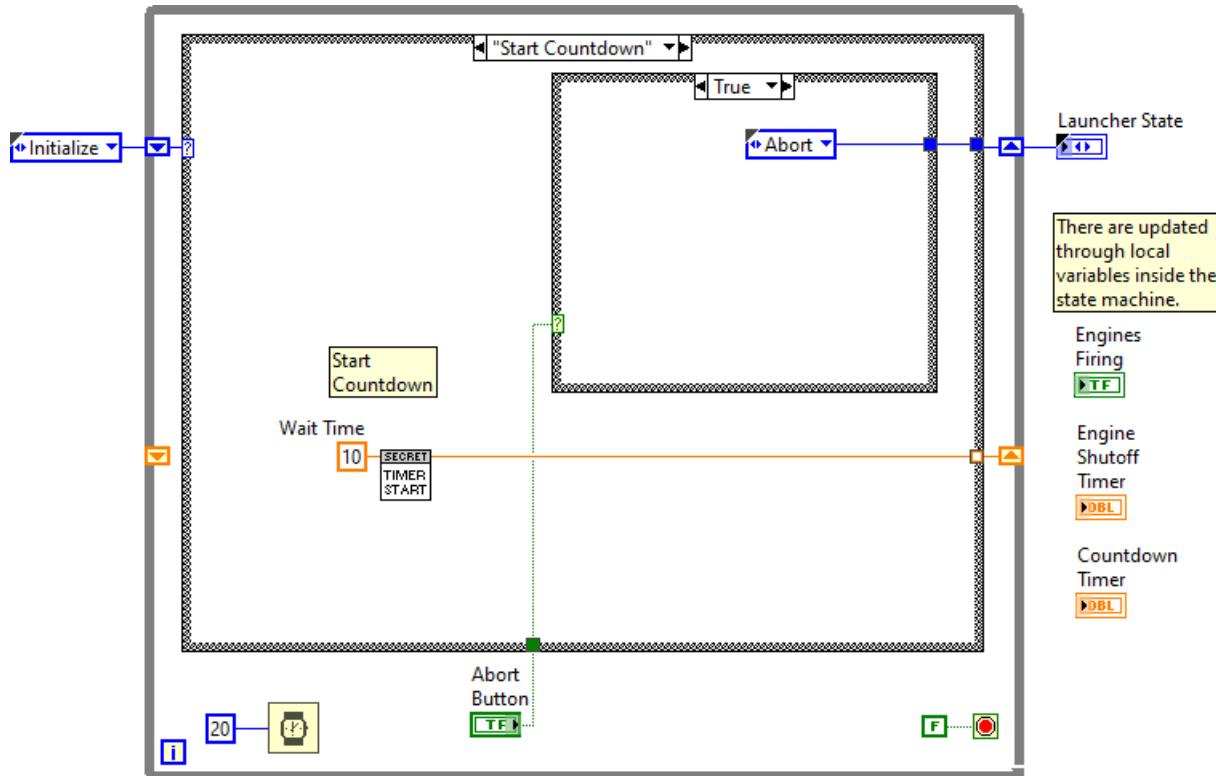

FIGURE 3.18 Starting the countdown timer
22. Write the code for the action sections. Start a 10 second timer. Wire it all the way out to the While Loop. Then change the terminal to a shift register as shown in Fig. 3.18.